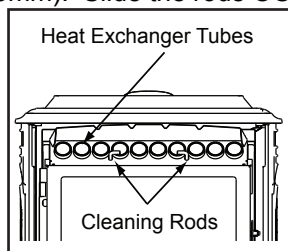

Figure 14.1
- Locate the 2 exposed rods directly underneath the heat exchanger tubes. **Figure 14.1.**